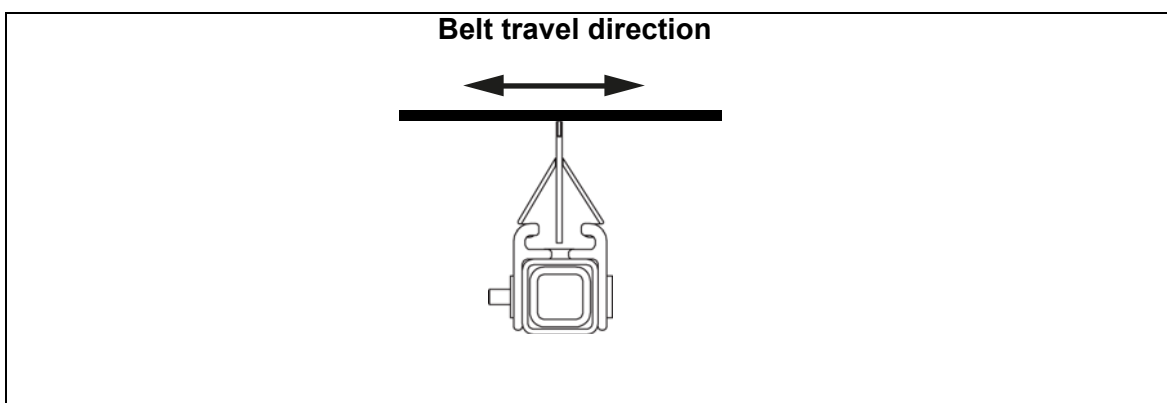

Fig. 31
- c) Insert new blades (1, Fig. 31) into the cartridge.
- d) Slide in the blade up to the stop (Fig. 31).